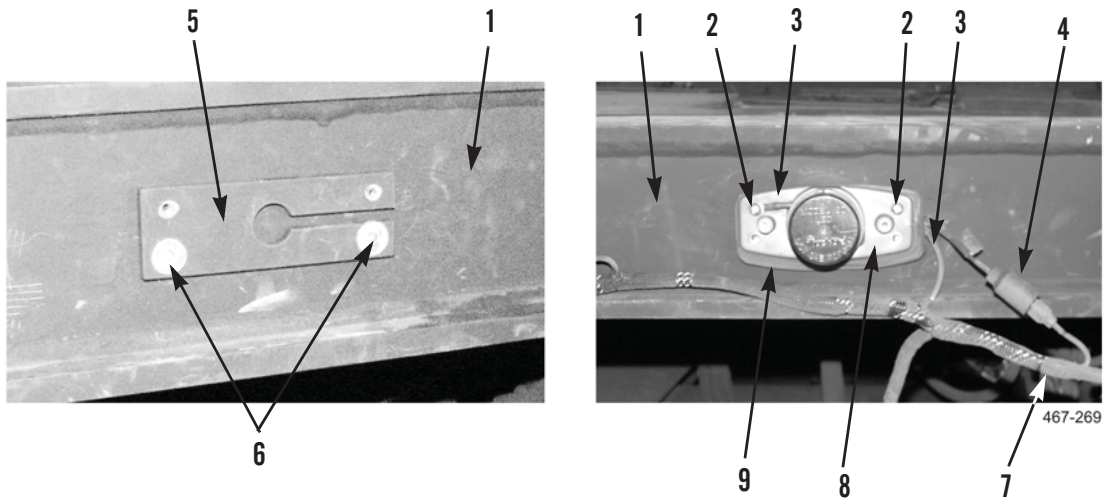

Figure 4. Slider Beam Light and Mounting Plate Removal.
2. Disconnect light connector (Figure 4, Item 4) from vehicle wiring harness (Figure 4, Item 7).
3. Remove two screws (Figure 4, Item 2), ground wires (Figure 4, Item 3), light (Figure 4, Item 8), and gasket (Figure 4, Item 9) from slider beam (Figure 4, Item 1).
4. Remove two screws (Figure 4, Item 6) and mounting plate (Figure 4, Item 5) from slider beam (Figure 4, Item 1).